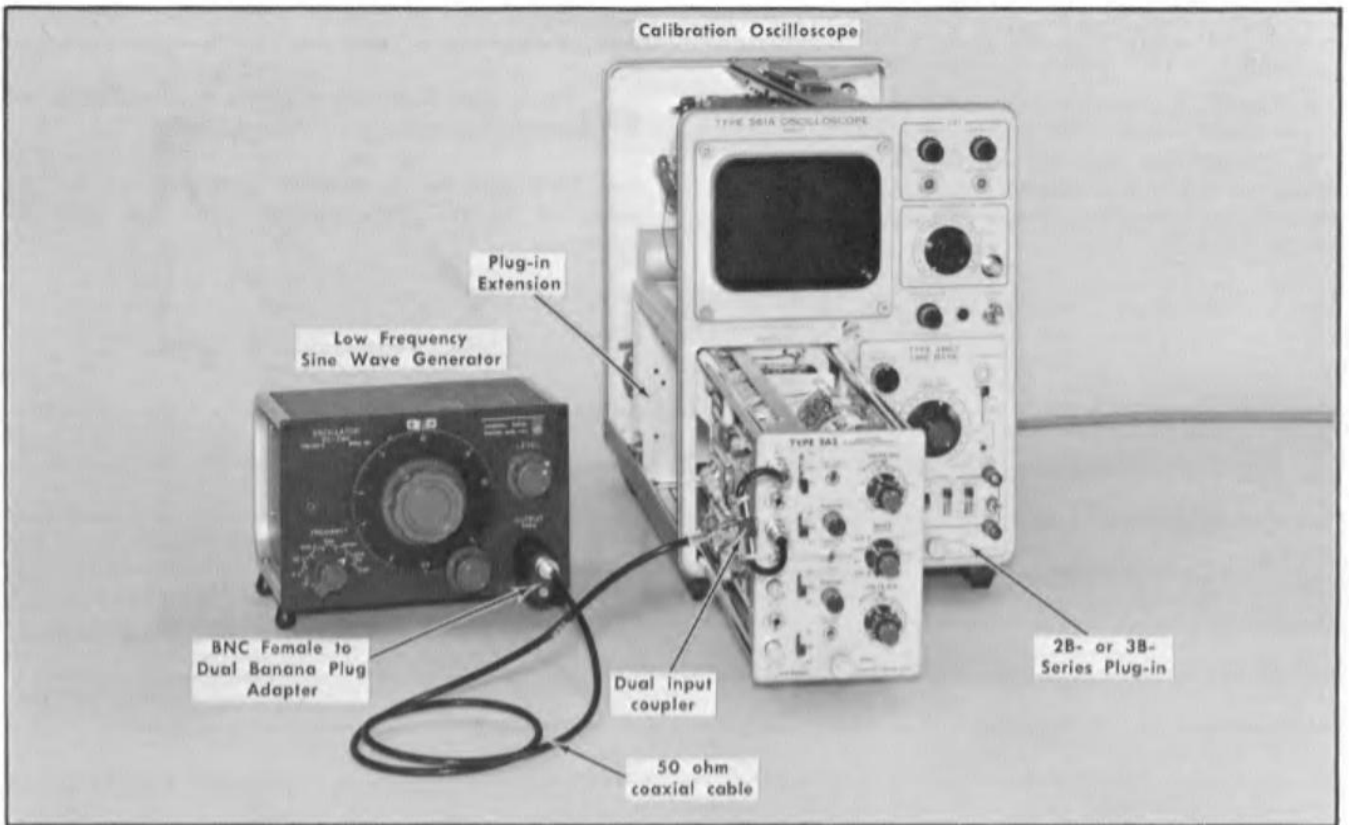

Fig. 6-15. Initial test equipment setup for steps 24 through 27.
- a. Test equipment setup is shown in Fig. 6-15.